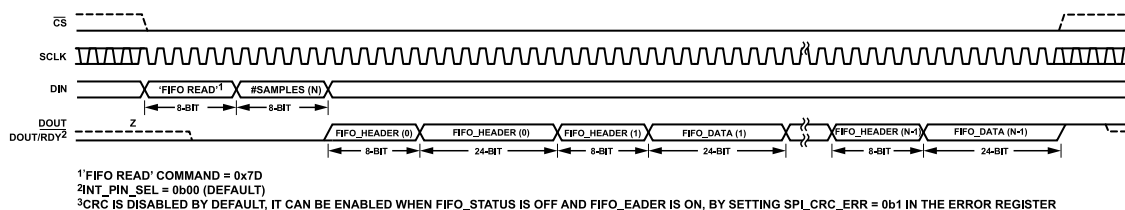
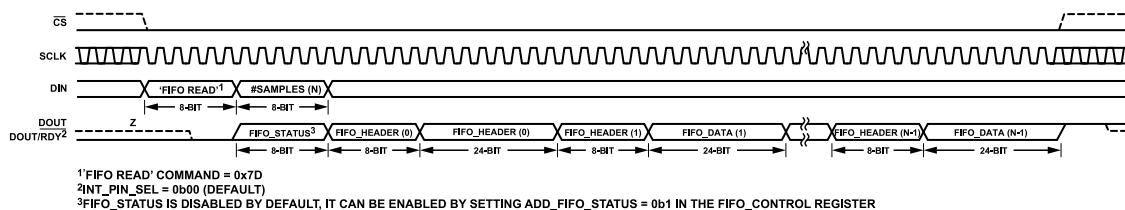

Figure 104. FIFO Readback Default (FIFO_STATUS Append Off and FIFO_HEADER Append On)
Figure 105. FIFO Readback (FIFO_STATUS Append On and FIFO_HEADER Append On)
By default, the FIFO_HEADER is enabled and the FIFO_STATUS append is disabled, so the FIFO readback diagram looks like Figure 104. If the FIFO_STATUS append is enabled, the FIFO readback diagram looks like Figure 105.
The FIFO_STATUS register content (see Table 71) can be enabled to be added and read before the FIFO_DATA and during the # samples (N) byte (see Figure 105), by setting ADD_FIFO_STATUS bit to 1 in the FIFO_CONTROL register (see Table 69). This way, the user can detect an error earlier on and abort the FIFO_DATA readback.